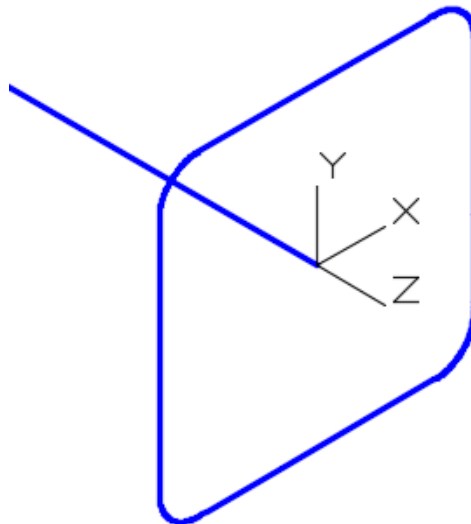

Figure Step 11
Step 11 Using what you learned earlier in the workalong, fillet the four corners of the pline with a radius of 0.25. (Figure Step 11)